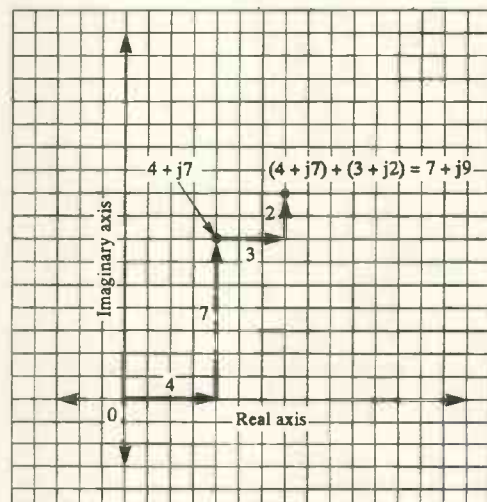
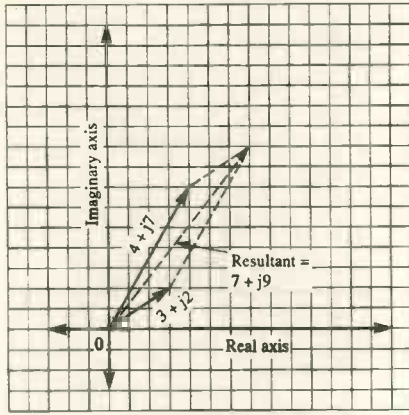

Fig. 6. Adding complex numbers.
Fig. 8. Complex number addition drawn as a vector addition. This is known as an Argand diagram.
This is indicated in Fig. 6. After a little practice, additions like this can be done mentally. So:
**Complex numbers and vectors:** Figure 6 shows the addition of vectors. In Fig. 8 the same addition is drawn as a vector addition. A diagram like this, which shows vectors drawn in the complex number plane, is called an Argand diagram. One particular kind of vector, used in describing alternating currents and voltages in circuits, is the phasor. The mathematics of imaginary and complex numbers is a useful tool for dealing with these phasors.
**Adding complex numbers in polar form:** We are sometimes given two vectors in polar form, and asked to find their sum or resultant vector. The way to do this is to convert them to rectangular form, sum them, and convert the sum back to polar form. For example: Sum the vectors  $z_1 = 8.06/60.26^\circ$  and  $z_2 = 3.61/33.69^\circ$ . Converting  $z_1$  to rectangular form:  $z_1 = 4 + j7$ . Converting  $z_2$  to rectangular form:  $z_2 = 3 + j2$ . Summing these:  $z_1 + z_2 = 7 + j9$ . Converting the sum to polar form:  $z_1 + z_2 = 11.40/52.13^\circ$ . This is the summation represented in Fig. 8.